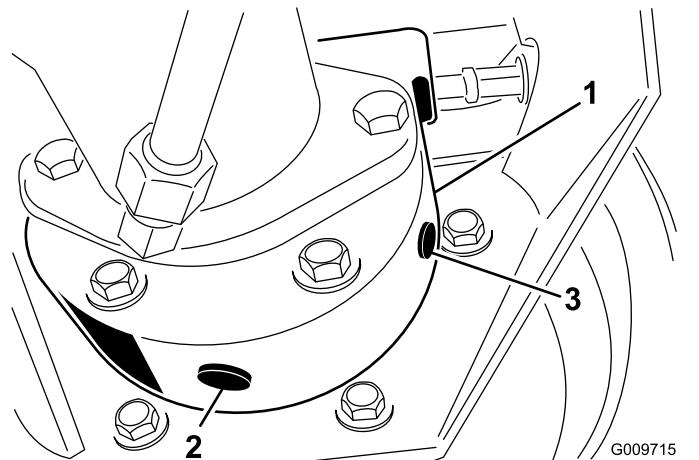

Figure 44
3. Place another drain pan under the brake housing on the other side of the wheel (Figure 44).